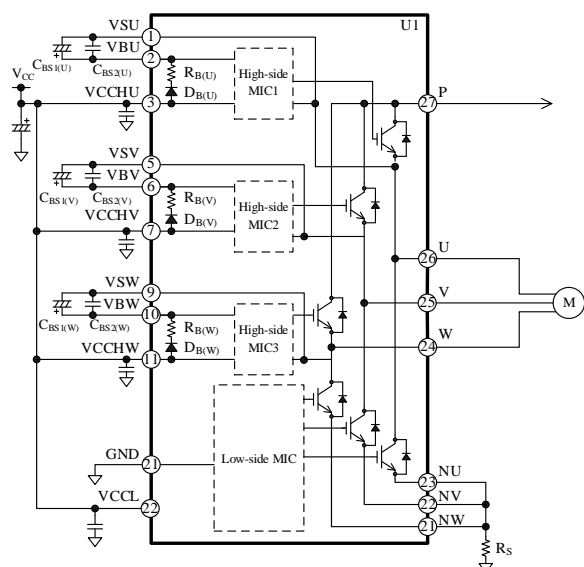

Figure 13-1. Bootstrap Circuit
As Figure 13-1 shows, bootstrap diodes, DB(x), and current-limiting resistors, RB(x), are internally placed in series between the VCCHx and VBx pins. Time constant for the charging time of CBS1(x),  $\tau$ , can be computed by Equation (3):